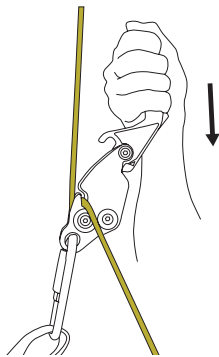

Fig. 3A
6. Start the descent using the **Smartline X** fig. 3A.